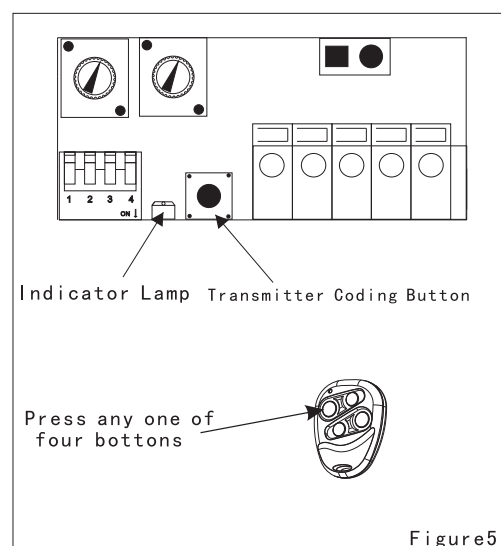

Figure5
8. PROGRAM THE TRANSMITTER INTO THE OPENER (see Figure5)
- Press the Transmitter Coding Button (C) ONCE and the Coding Indicator Lamp switches on (see Figure 5);